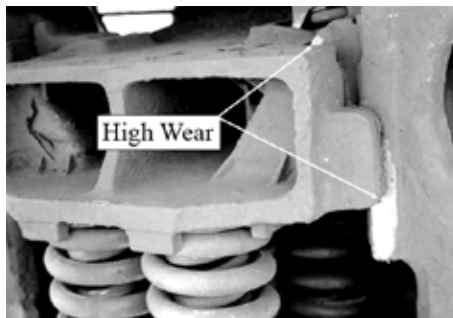

Figure 1: High gib/side frame wear and friction wedge lateral wear
- fresh bolster gib wear (see Figure 1)
- wear between the side of the friction wedge and bolster pocket (see Figure 1)